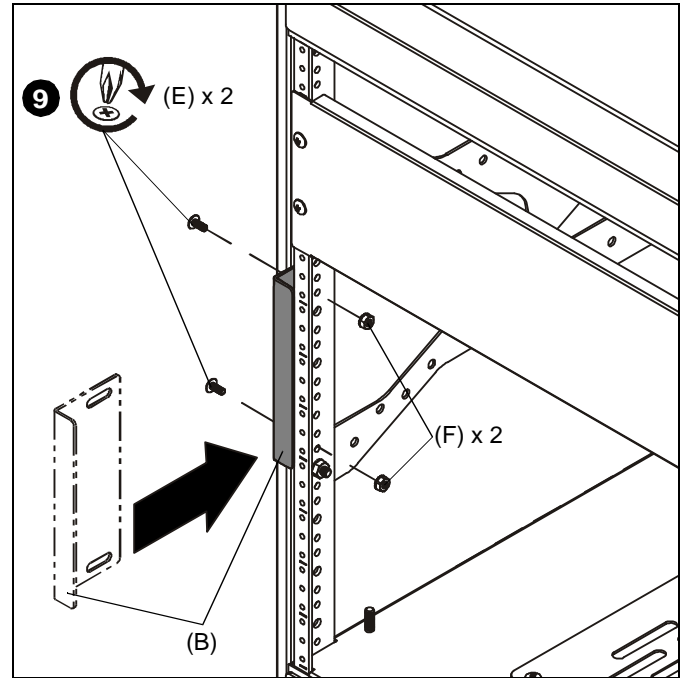

Figure 7
9. Add door catch (B) to rack rail using two 1/4-20 x 5/8" screws (E) and two 1/4-20 lock nuts (F). (See Figure 7)